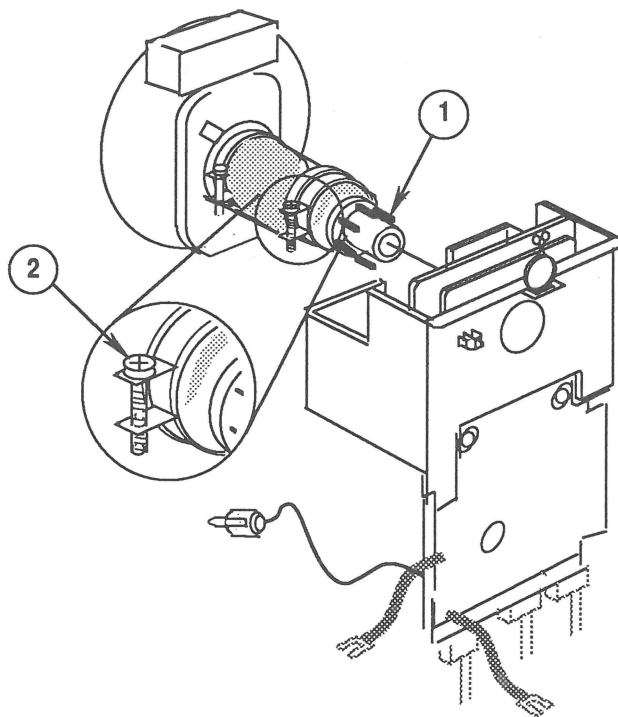

FIGURE 33
4. Replace the CRT board on the CRT. To do this, first check that none of the pins (Figure 33, #1) on the neck of the CRT is bent. Then align the CRT board connector with the CRT pins, and carefully push the board onto the CRT.
5. Tighten the screw (Figure 33, #2) on the ring clamp just enough to keep the CRT board from slipping.